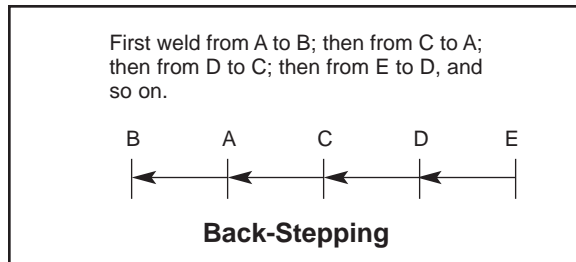

FIGURE 17
3. When welding sheet metal 16 gauge (1.5 mm) and lighter, heat buildup may cause part warpage and burn through. One way to eliminate these problems is to use the back-stepping method illustrated in Figure 17.